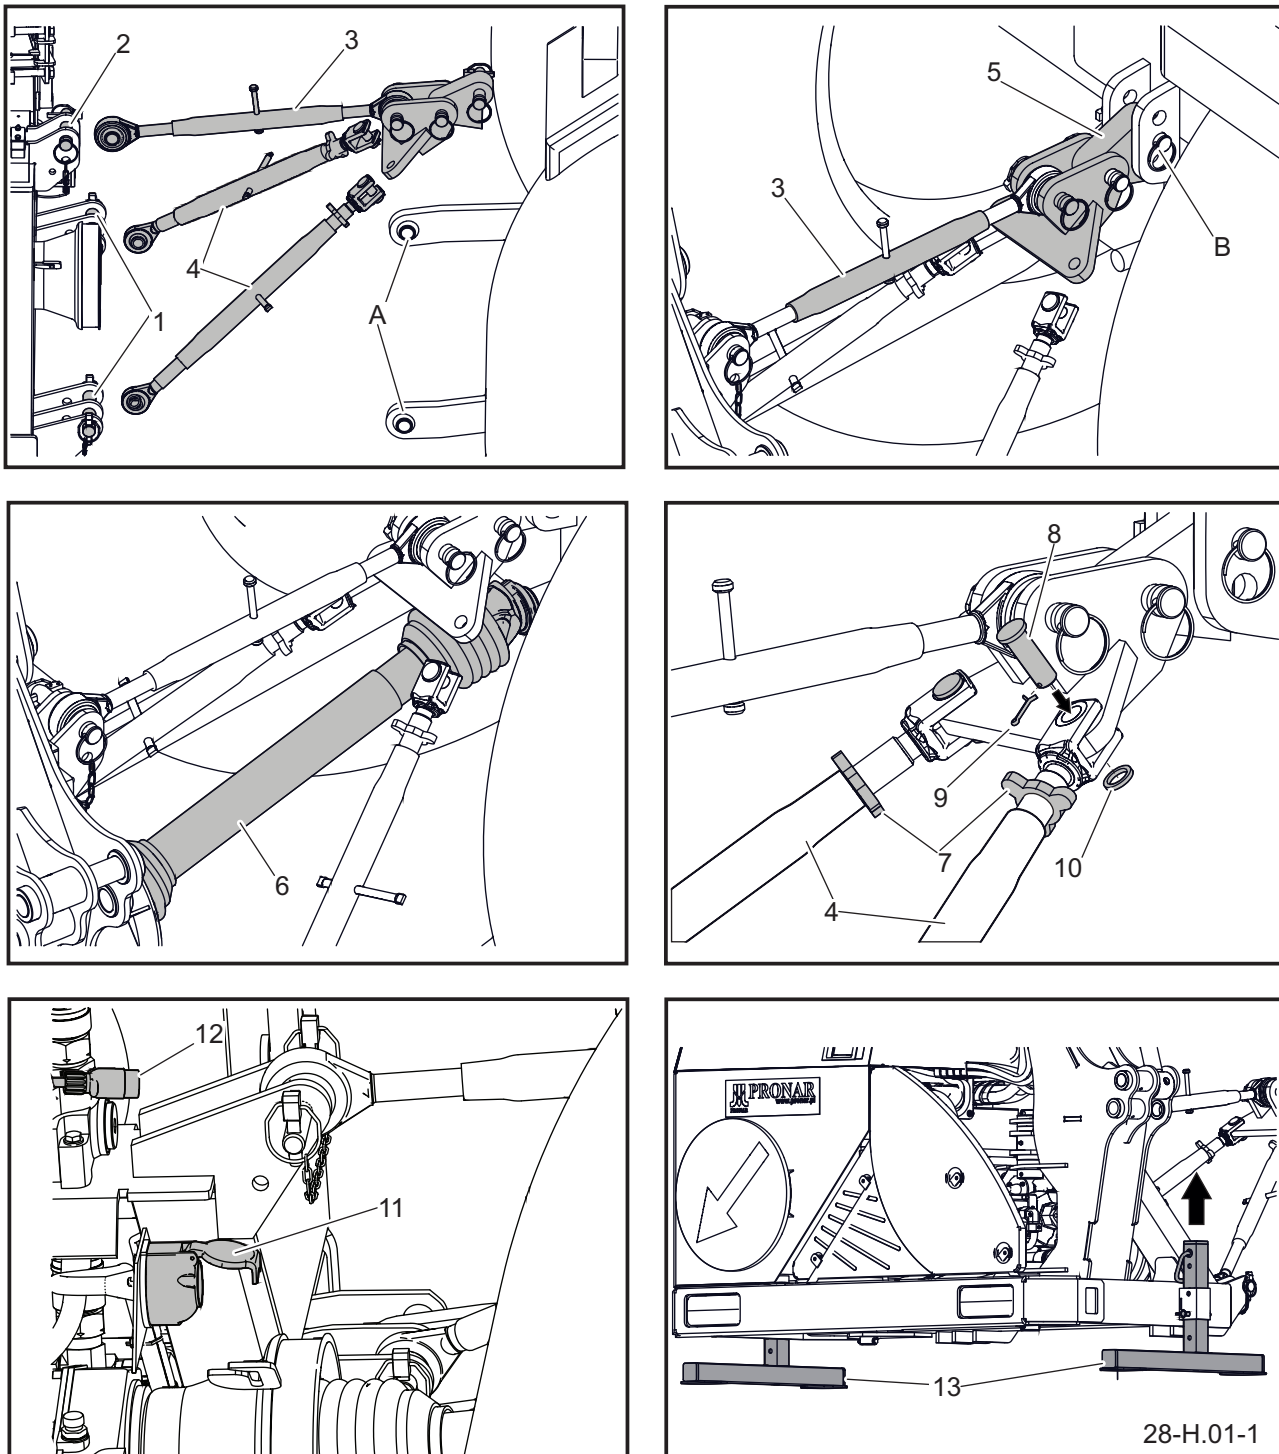
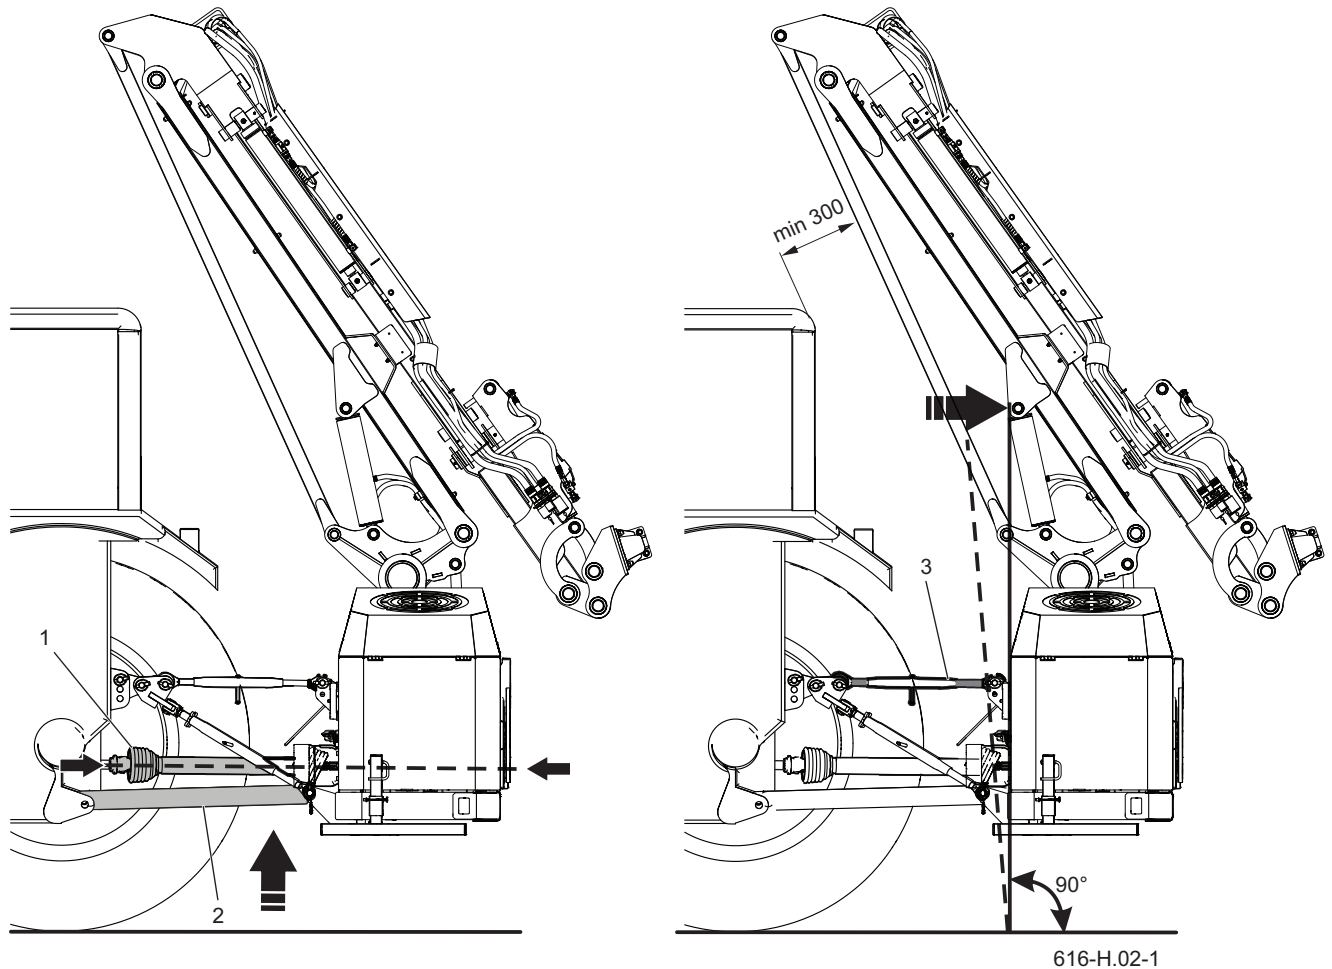

Figure 4.1 Hitching the multifunction arm to the carrier vehicle (tractor).
Figure 4.2 How to position the multifunction arm in relation to the ground.
In order to hitch the multifunction arm to the carrier vehicle's (tractor's) rear three-point linkage, adhere to the following guidelines (FIGURE 4.1):
- connect lower links (A) of the carrier vehicle's (tractor's) three-point linkage. Connect lower links (4) of the three-point linkage lock system with pins (1) of the multifunction arm linkage. Secure pins (1) with cotter pins (14),
- connect central connector (3) of the three-point linkage lock with the upper fixing point (2) of the multifunction arm linkage, secure with pin (15),
- adjust the length of central connector (3) in order to connect the upper securing point of the three-point linkage (B) with bracket (5) of the three-point linkage lock system and secure with a cotter pin (16),
- connect the carrier vehicle's (tractor's) PTO to the multifunction arm's multiplier gear box by means of the drive shaft (6),
- when links (4) of the three-point
The proper alignment of the PTO shaft of the carrier vehicle (tractor) with the shaft of the sand spreader's drive system significantly extends the life of the drive shaft (1) (Figure 4.2).
linkage lock system are unlocked (FIGURE 4.1), raise the multifunction arm by means of lower links (2) (FIGURE 4.2) of the rear three-point linkage of the carrier vehicle (tractor) to such a height that drive shaft (1) connecting the multifunction arm's multiplier gear box with PTO shaft of the carrier vehicle (tractor) is positioned horizontally with regard to the ground.
- mount the three-point linkage by fixing the fork of links (4) (FIGURE 4.1) to the bracket of the three-point linkage lock using pins (8). Secure the pins with cotter pins (9).
- lock the set length of links (4) of the three-point linkage lock by means of lock nuts (7).
- connect 7-pole electric socket (11) of the power supply system of rear lamp assembly and 3-pole electric socket (12) of the power supply system of the multifunction arm's oil cooler fan and control panel with corresponding electric sockets on the carrier vehicle (tractor) (FIGURE 4.1).